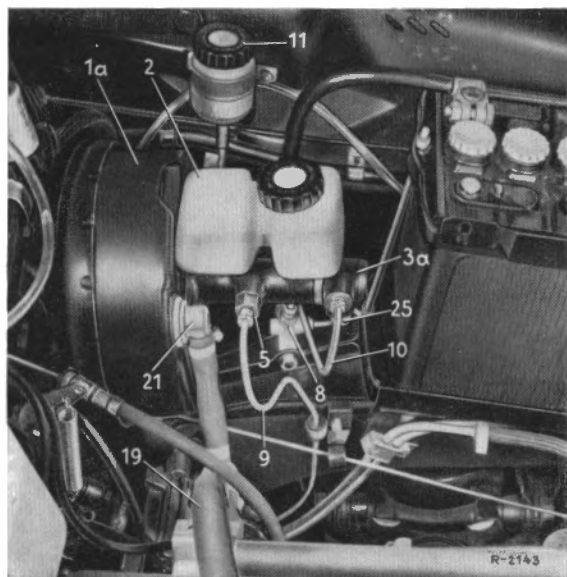

Fig. 42-3a/12
4. Detach the tandem master cylinder (3) from the power brake (1) and remove, paying attention to the O-ring (10) located in the groove of the tandem master cylinder (Fig. 42-3a/13).
If the 1st version tandem master cylinder is replaced by the 2nd or 3rd version (with the brake circuits connected the other way round) the brake line (10) to the distributor fitting (8) of the front wheel brake should be connected to the floating circuit pressure chamber and the brake line (9) to the rear wheel brake should be connected to the push rod pressure chamber. The second connection on the master cylinder which points downward should be closed with a screw plug (25) and a copper sealing ring Part No. 000 997 50 30 (Fig. 42-3a/12).